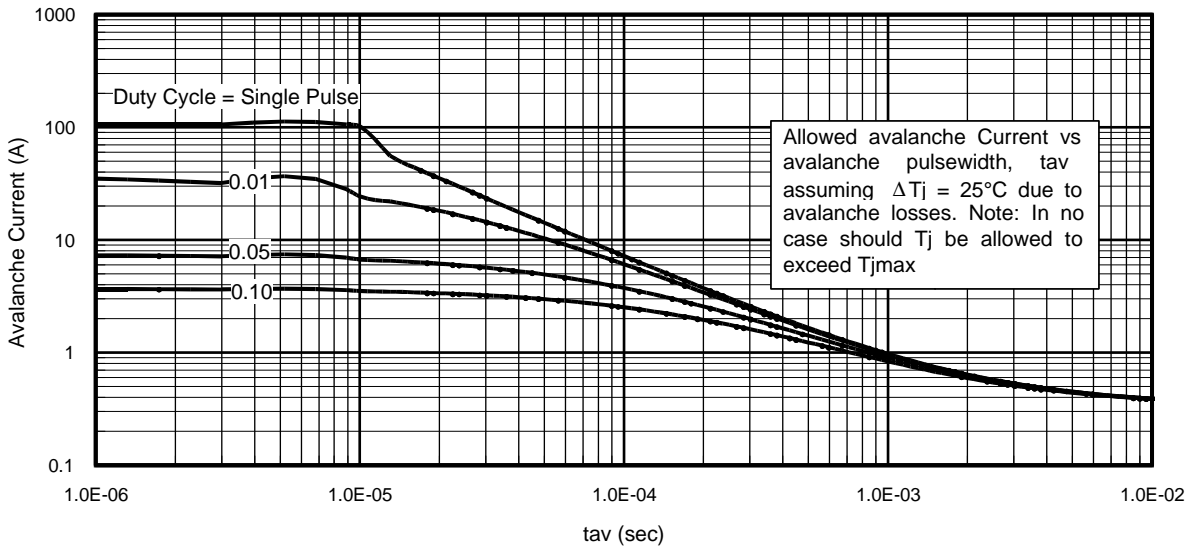

Fig 14. Typical Avalanche Current Vs. Pulsewidth
Notes on Repetitive Avalanche Curves , Figures 14, 15:
7. ΔT = Allowable rise in junction temperature, not to exceed T_{jmax} (assumed as 25°C in Figure 14, 15).
- ① Repetitive rating; pulse width limited by max. junction temperature.
- ② Starting $T_J = 25^\circ\text{C}$, $L = 0.93\text{mH}$, $R_G = 25\Omega$, $I_{AS} = 19\text{A}$.
- ③ Pulse width $\leq 400\mu\text{s}$; duty cycle $\leq 2\%$.
- ④ This only applies for I-Pak, L_S of D-Pak is measured between lead and center of die contact
- ⑤ R_{θ} is measured at T_J of approximately 90°C .
- ⑥ Contact factory for mounting information
- ⑦ Limited by T_{jmax} . See Figs. 14, 15, 17a, 17b for repetitive avalanche information
- ⑧ When D-Pak mounted on 1" square PCB (FR-4 or G-10 Material) . For recommended footprint and soldering techniques refer to application note #AN-994
- ⑨ Refer to D-Pak package for Part Marking, Tape and Reel information.